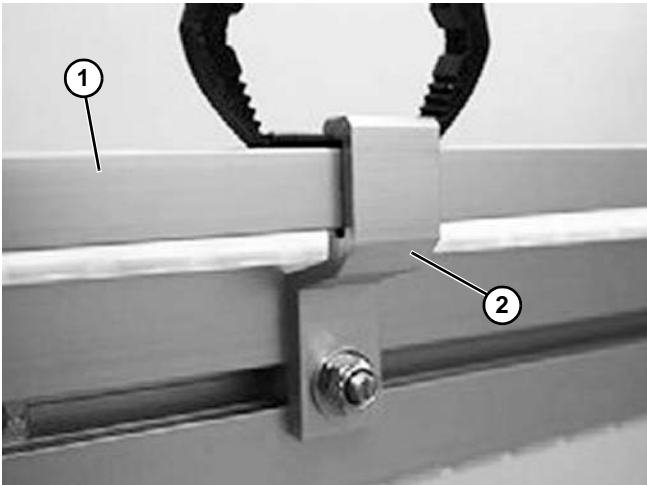

Figure 107
2. Attach the guide rail (**Figure 107, item 1**) to the bracket (**Figure 107, item 2**). Clamp the spring pin into the slot between bracket and guide rail to the fixed position.